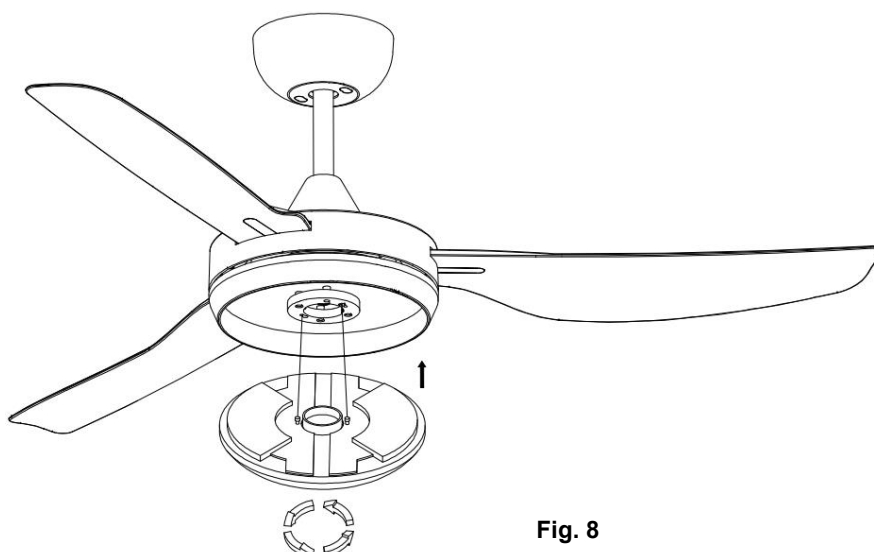

Fig. 8
- Install the lamp on the fan assembly then secure it by turning clockwise. (Fig.8)